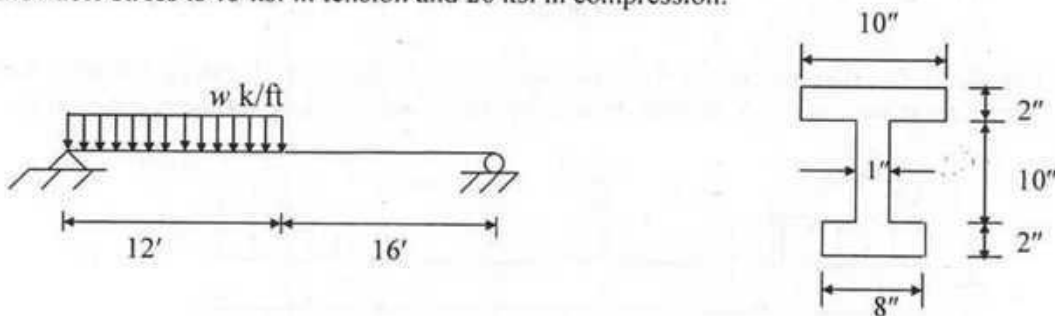

Fig.6
6. A beam is loaded as shown in the Fig.6. Determine the maximum allowable value of " w " if allowable stress is 15 ksi in tension and 20 ksi in compression.